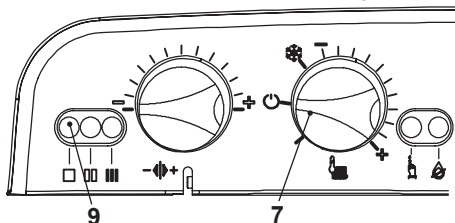

Fig. 8.2
- Turn the boiler OFF positioning the function selector 7 as indicated in Fig. 8.2.